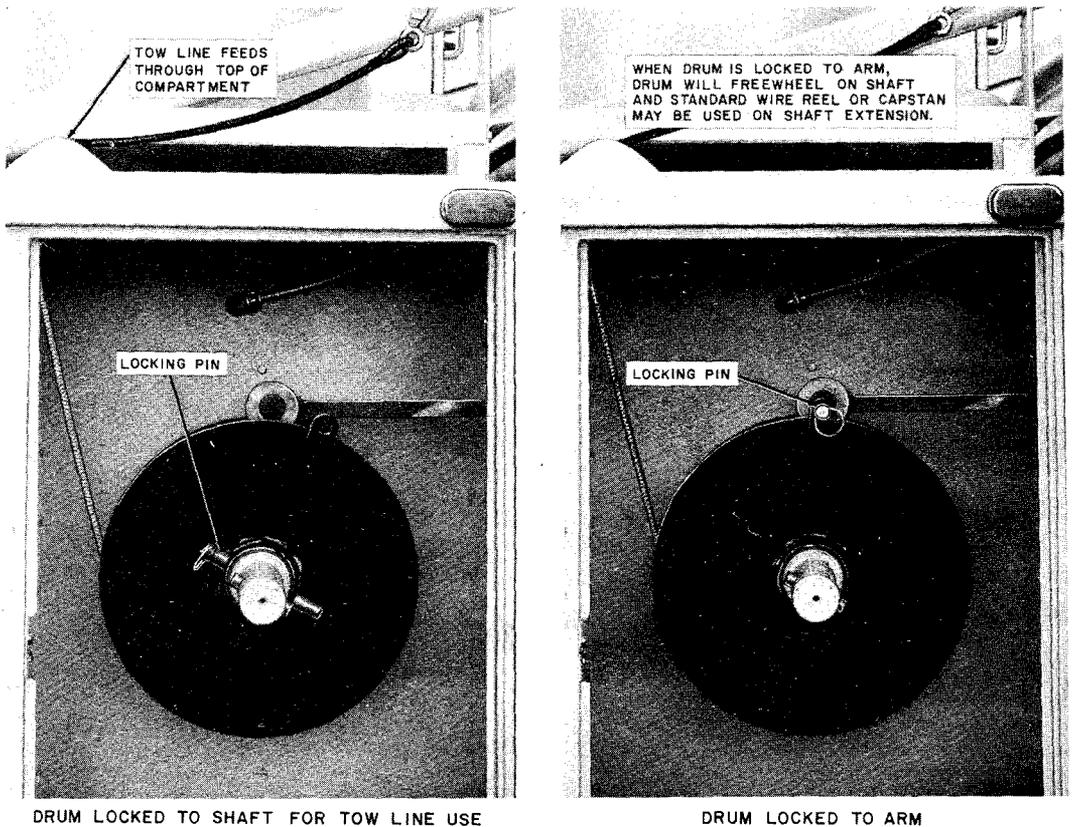

Fig. 10—Powered Tow Line Drum
2.10 The powered tow-line drum is located inside the right-hand forward compartment of the truck body and contains 175 feet of a synthetic fiber tensioning line. The line is led through the compartment top, through a snatch block mounted forward (attached to the roller guide assembly), and up to the work location aloft. Straight line pulls up to 750 pounds at 42 feet per minute can be obtained. The drum may be disconnected to freewheel or may be removed. The shaft extension will accommodate standard wire reels or capstan. The tow line drum is shown in Fig. 10.